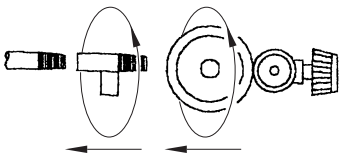

FIG. 4
4. Install the brass "Tee" between the outlet of the regulator and the inlet of the hose as shown in fig. 4. Be sure to tighten the threads enough to prevent any gas leaks. Do not over-tighten the fitting into the regulator as it may crack the regulator casing.